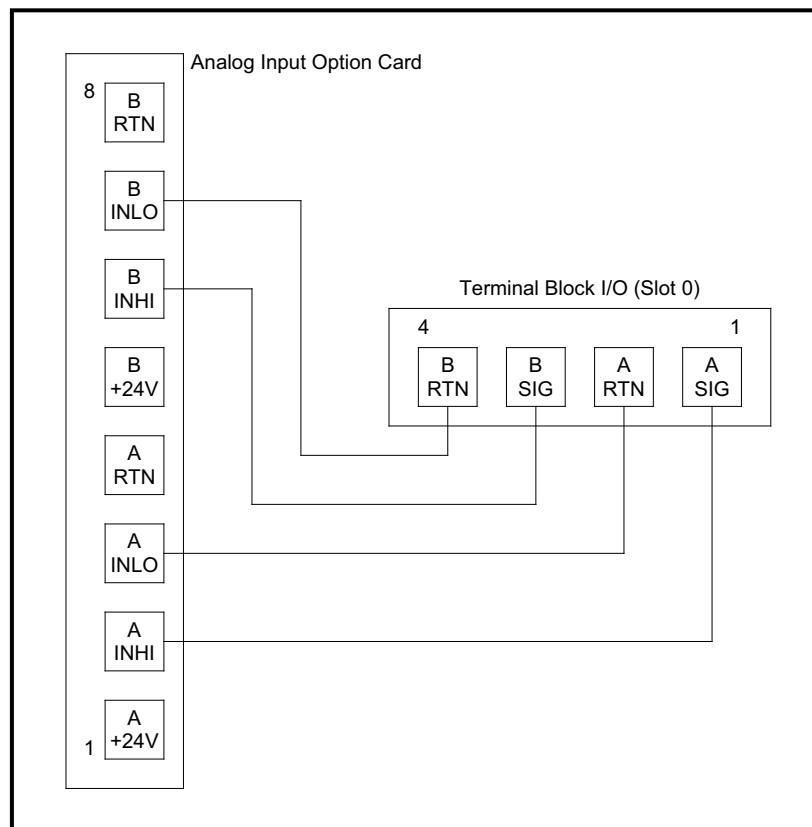

Figure 3: Analog Input Calibration Connections
Connect the **Slot 0** analog output(s) (or an independent calibrated current source) to the analog input(s) on the option card, as shown in *Figure 3* below. Refer to the menu map in *Figure 6* on page 15 as a guide.
The procedure for calibrating **Input A** is identical to that for calibrating **Input B**. However, when calibrating **Input B**, be sure a calibrated current source is connected to the appropriate pins on the terminal block. See *Figure 3* on the previous page for the correct pin numbers. To calibrate a 0/4–20 mA input card, see the section below.
1. Connect the 4 mA current source to the currently selected analog input, as shown in *Figure 3* on page 6.
1. Connect the 20 mA current source to the currently selected analog input, as shown in *Figure 3 on page 6*.